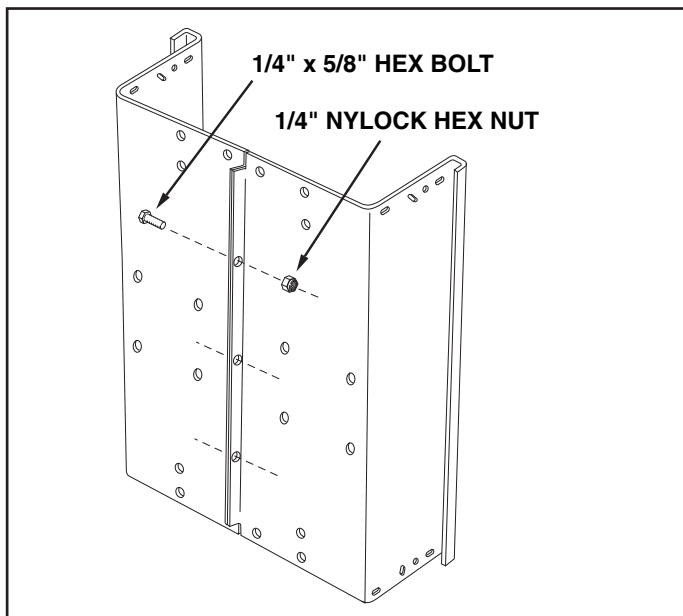
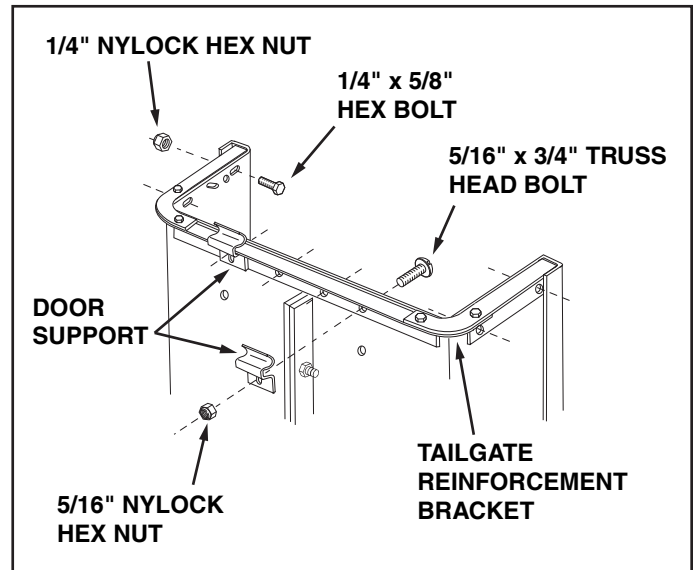

FIGURE 1
FIGURE 2
1. Place cart body halves upright on a smooth level surface such as a garage floor or a paved driveway. See figure 1.
2. Assemble cart body halves together using three 1/4" x 5/8" hex bolts and 1/4" Nylock hex nuts as shown in figure 1. **Do not tighten yet.**
3. Fit the tailgate reinforcement bracket over the end of the cart bed. Position the two door support brackets on the bottom of the reinforcement bracket as shown in figure 2. Fasten the reinforcement bracket and the door supports to the bottom of the cart using four 5/16" x 3/4" truss head bolts and 5/16" Nylock hex nuts. **Do not tighten yet.** See figure 2.
4. Fasten the tailgate reinforcement bracket to the sides of the cart body using four 1/4" x 5/8" hex bolts and 1/4" Nylock hex nuts as shown in figure 2. **Do not tighten yet.**
5. Pull the cart body halves together. **Tighten** the four truss head bolts in figure 2. **Tighten** the four hex bolts in figure 2. **Tighten** the three hex bolts in figure 1, keeping the bottom aligned and pulled together.